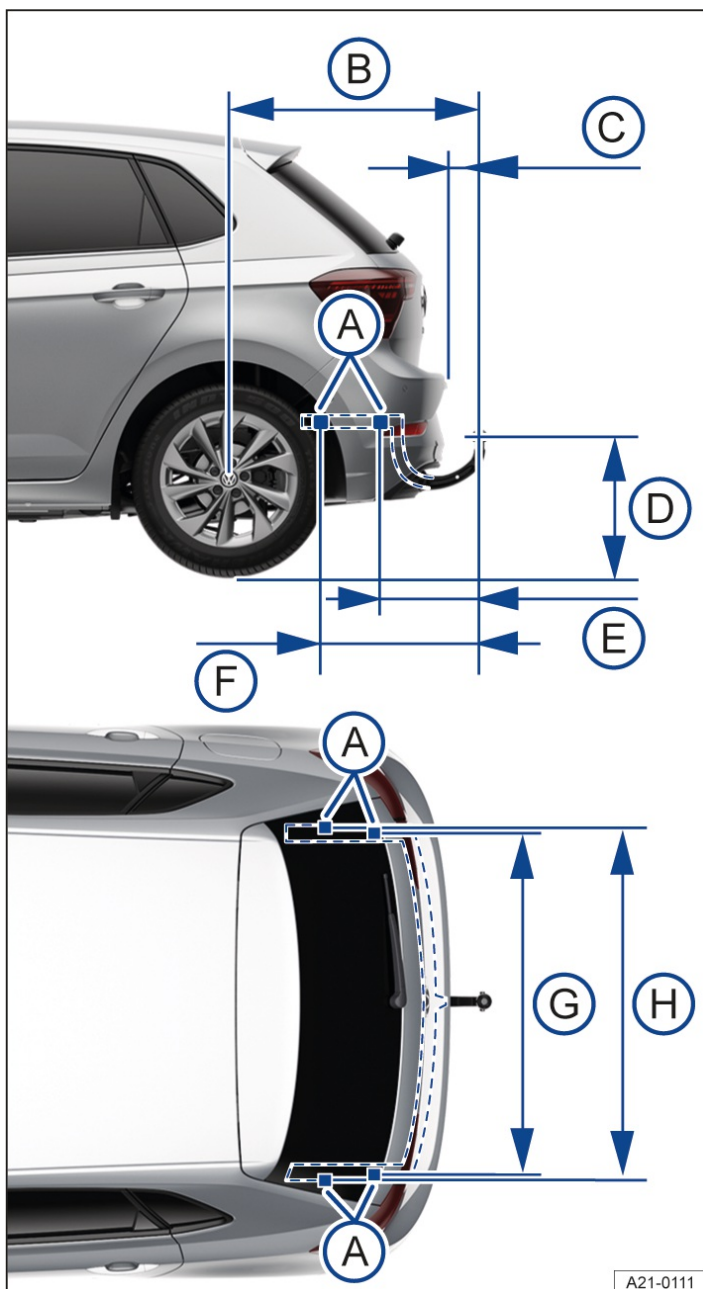

Fig. 1 Dimensions and mounting points for retrofitting a towing bracket.
The distance dimensions → Fig. 1 must be observed in all cases when retrofitting a towing bracket. Always observe the minimum distance given from the middle of the ball coupling (D) to the surface of the road. This also applies when the vehicle is fully laden, including maximum drawbar load.
- (A) Attachment points.
- (B) 798 mm (approx. 31.4 in)
- (C) at least 65 mm (approx. 2.6 in)
- (D) 350 to 420 mm (approx. 13.8 to 16.5 in)
- (E) 333 mm (approx. 13.1 in)
- (F) 459 mm (approx. 18 in)
- (G) 1,025 mm (approx 40.4 in)
- (H) 1,031 mm (approx 40.6 in)